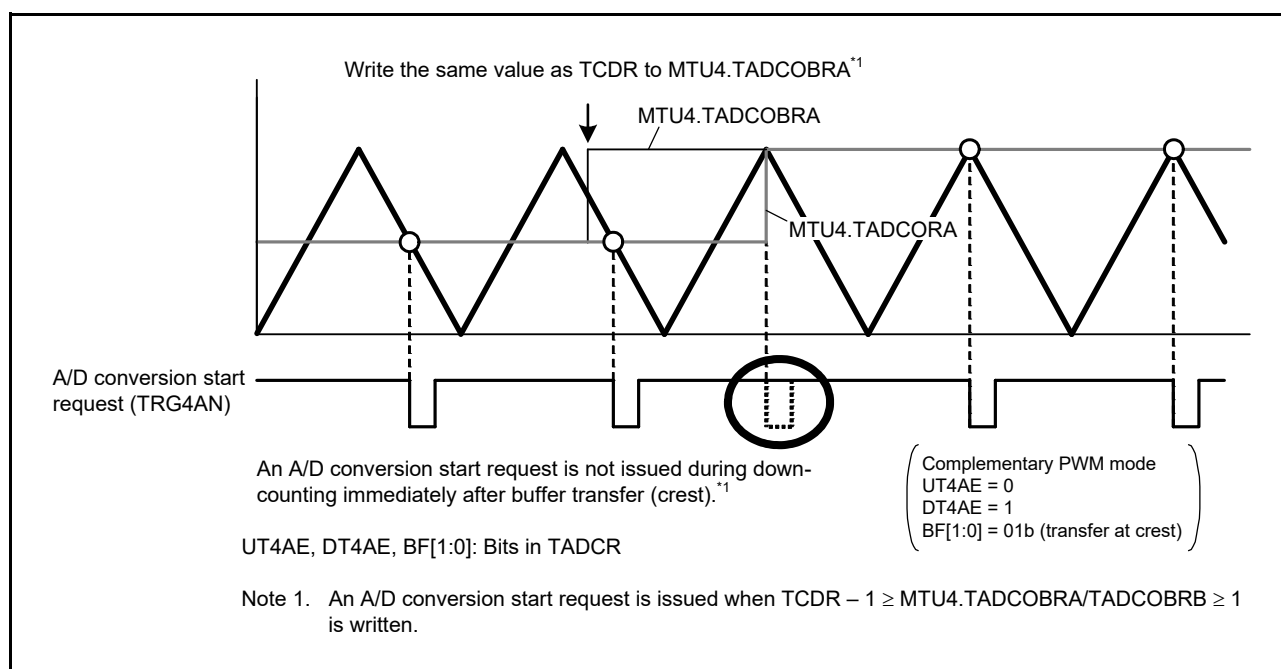

Figure 24.153 A/D Conversion Start Request When the Same Value as TCDR is Written to MTU4.TADCOBRA
- When data is transferred from a buffer register at the crest of the MTU4.TCNT (MTU7.TCNT) counter while the MTU4.TADCOBRA and MTU4.TADCOBRB (MTU7.TADCOBRA and MTU7.TADCOBRB) registers are set to the same value as the TCDR and the UT4AE and UT4BE (UT7AE and UT7BE) bits in the MTU4.TADCR (MTU7.TADCR) register are set to 1, no A/D conversion start request is issued during down-counting immediately after transfer. Refer to Figure 24.153.